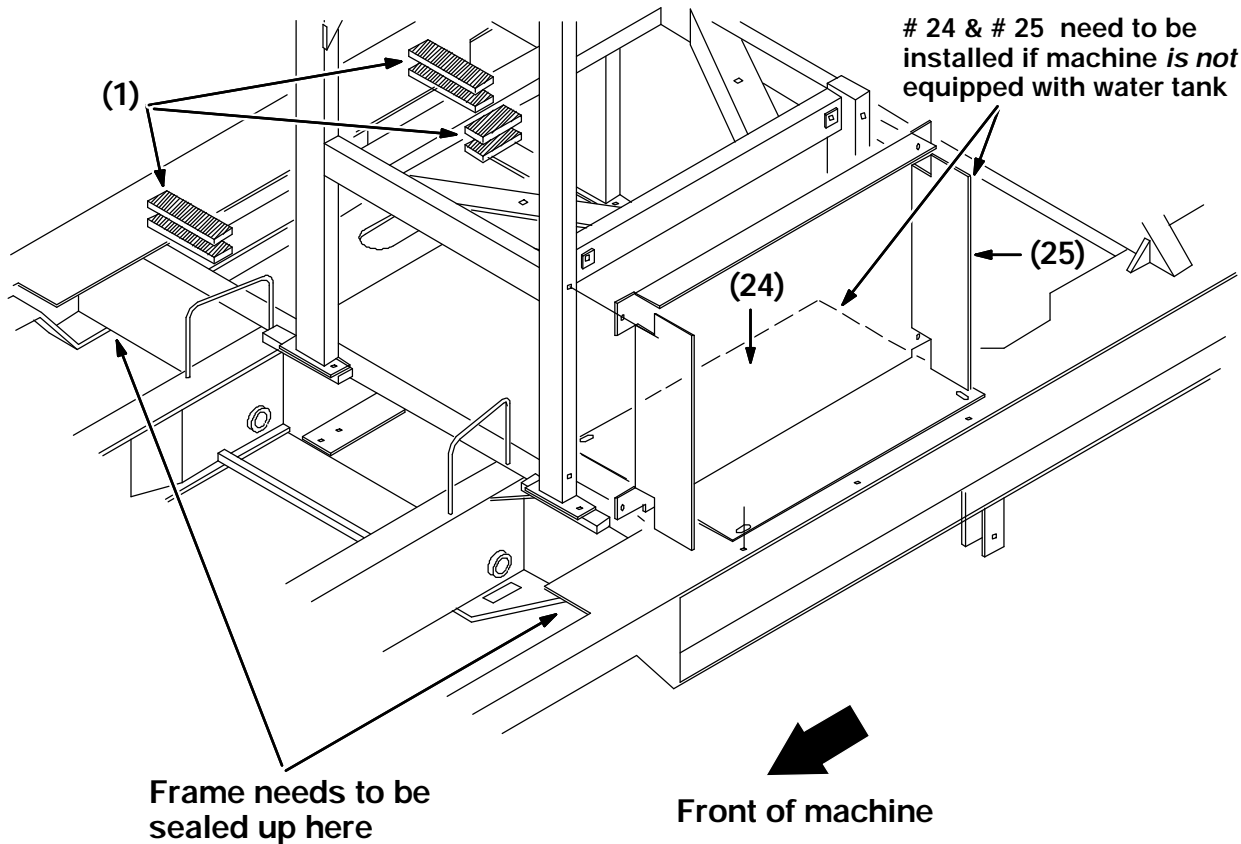

FIG. 9 - Frame Seals
(Refer to Figure 9)
1. The area around the engine floor plate under the fuel tank filler neck needs to be sealed up. The filter frame gasket material (1) is used to fill any gaps that would allow dust and air to move past the SBDC assembly. Reinstall the engine floor plate under the fuel tank filler neck. (Refer to Fig. 9)
2. The area around the the front of the frame rails needs to be sealed up on both sides of the machine.. The filter frame gasket material (1) is used to fill any gaps that would allow dust and air to move past the SBDC assembly. (Refer to Fig. 9)
3. After all the gaps in the frame have been filled with the filter frame gasket material (1), reinstall both front inner fenders above the drive wheels. (Refer to Fig. 9)